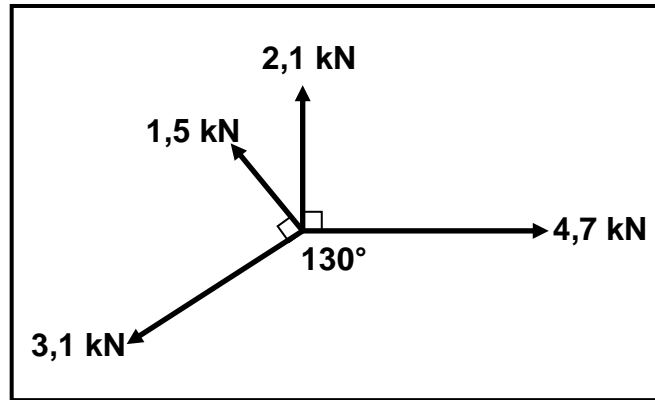

FIGURE 7.1
7.1 A system of forces is shown in FIGURE 7.1. Determine, by means of calculations, the magnitude and direction of the resultant for the system of forces in FIGURE 7.1.